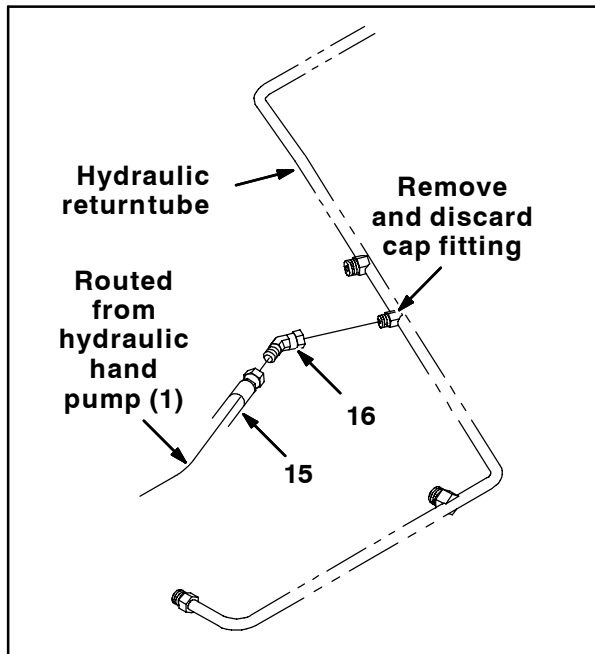
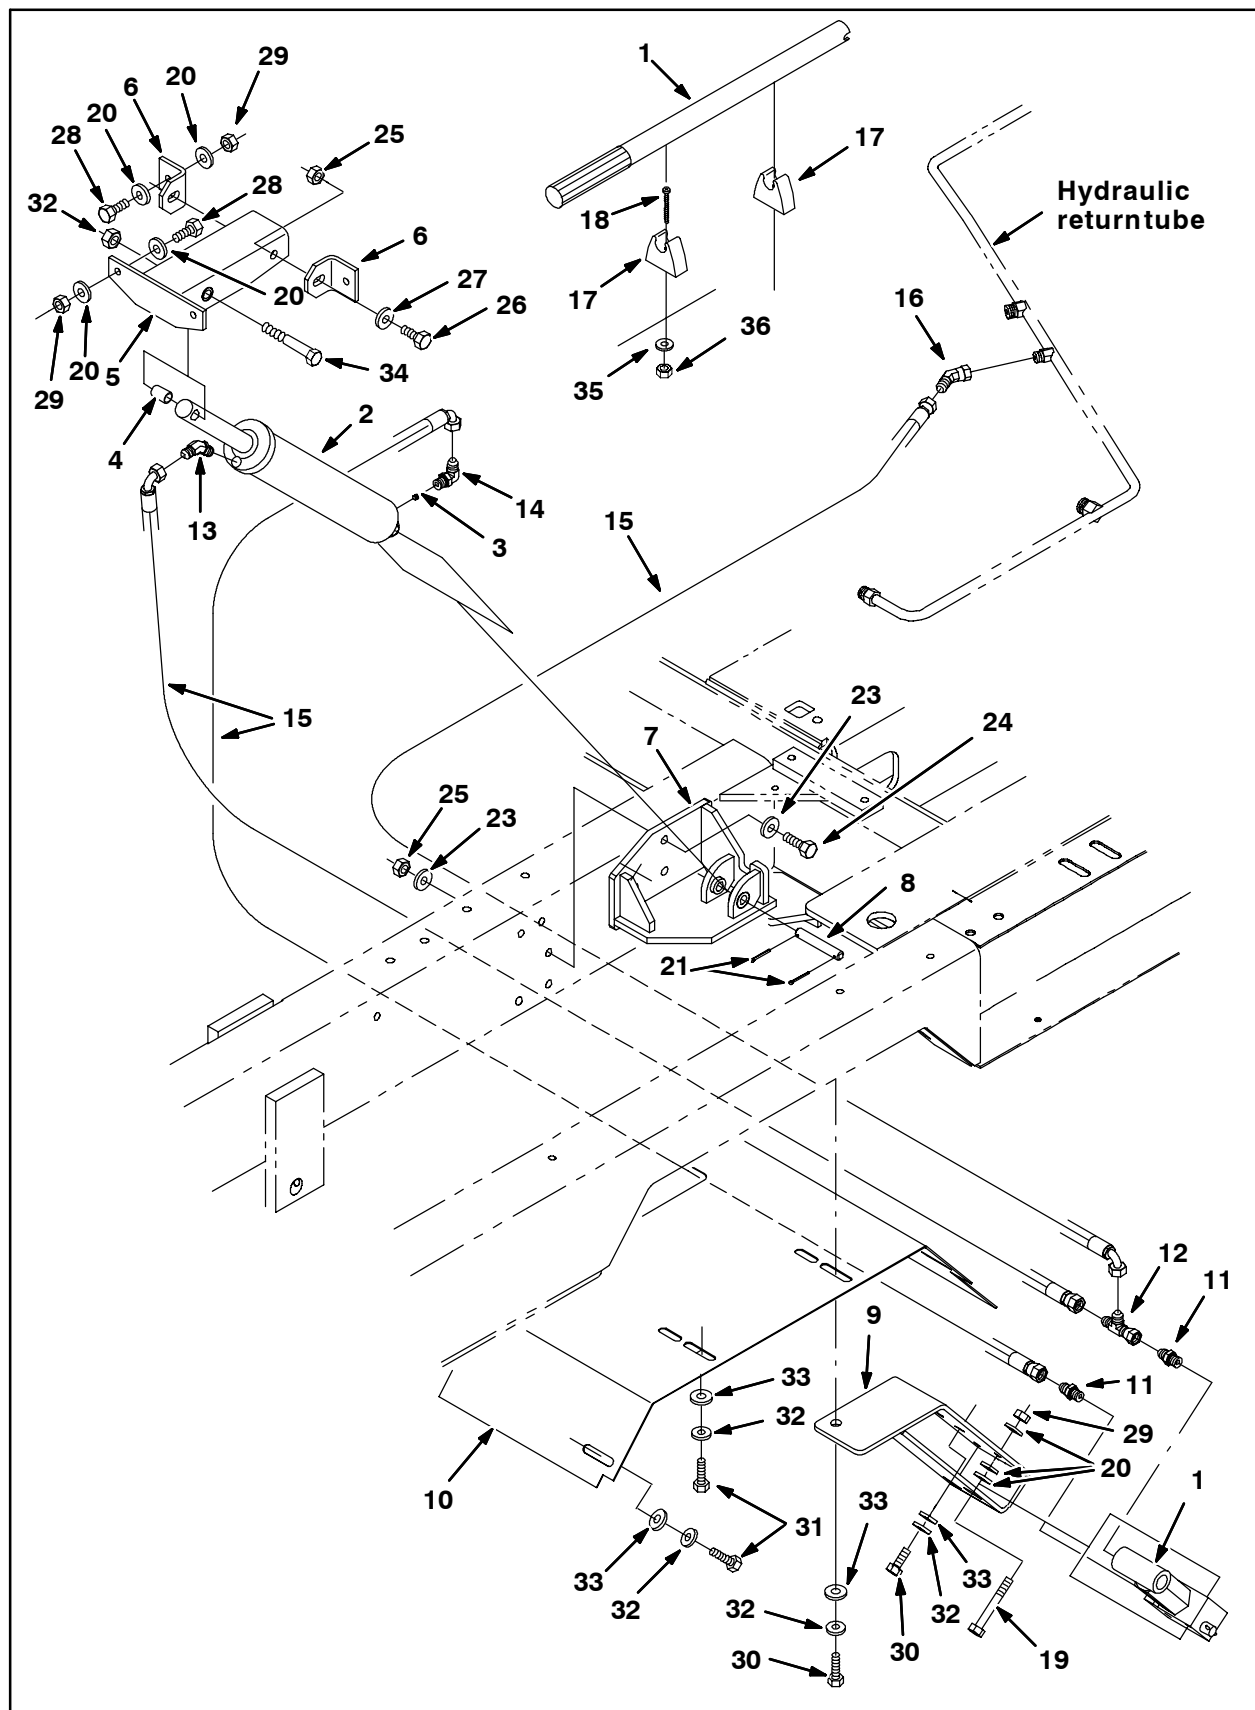

FIG. 13
FIG. 16
19. Connect one hydraulic hose (15) to the 45° fitting (13) attached to the hydraulic cylinder (2), route the hose to the hydraulic hand pump (1), and attach the hose to the tee fitting (12) on the hydraulic hand pump. Refer to Fig. 16.
20. Connect another hydraulic hose (15) to the 90° fitting (14) attached to the hydraulic cylinder (2), route the hose to the hydraulic hand pump (1), and attach the hose to the straight fitting (11) on the hydraulic hand pump. Refer to Fig. 16.
21. Remove the cap fitting from the hydraulic return tube and install a 45° fitting (16) where the cap fitting was previously installed. Discard the cap fitting. Refer to Fig. 13.
22. Connect the remaining hydraulic hose (15) to the tee fitting (12) on the hydraulic hand pump (1), route the hose to the hydraulic return tube, and attach the hose to the 45° fitting (16) on the hydraulic return tube. Refer to Fig. 13 and Fig. 16.